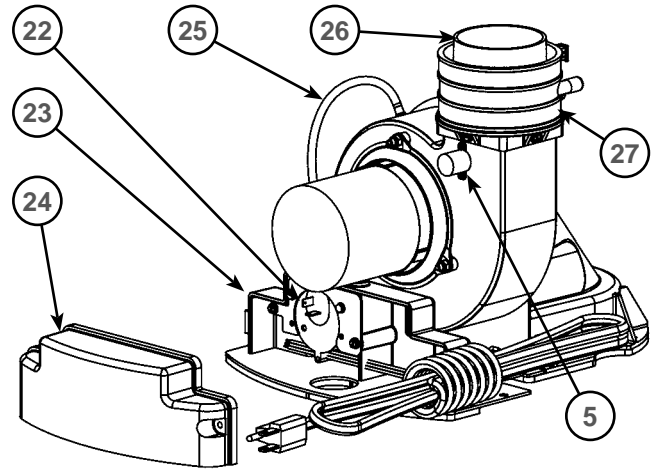

Figure 56
- 5 Limit Switch (see Figure 9) (see also Figure 56)
- 21 Blower with Power Cord (see Figure 9) (see also Figure 56)
- 22 Air Switch (inside box) (see Figure 9) (see also Figure 56)
- 23 Junction Box (see Figure 9) (see also Figure 56)
- 24 Junction Box Cover (see Figure 9) (see also Figure 56)
- 25 Air Tubing (see Figure 9) (see also Figure 56)